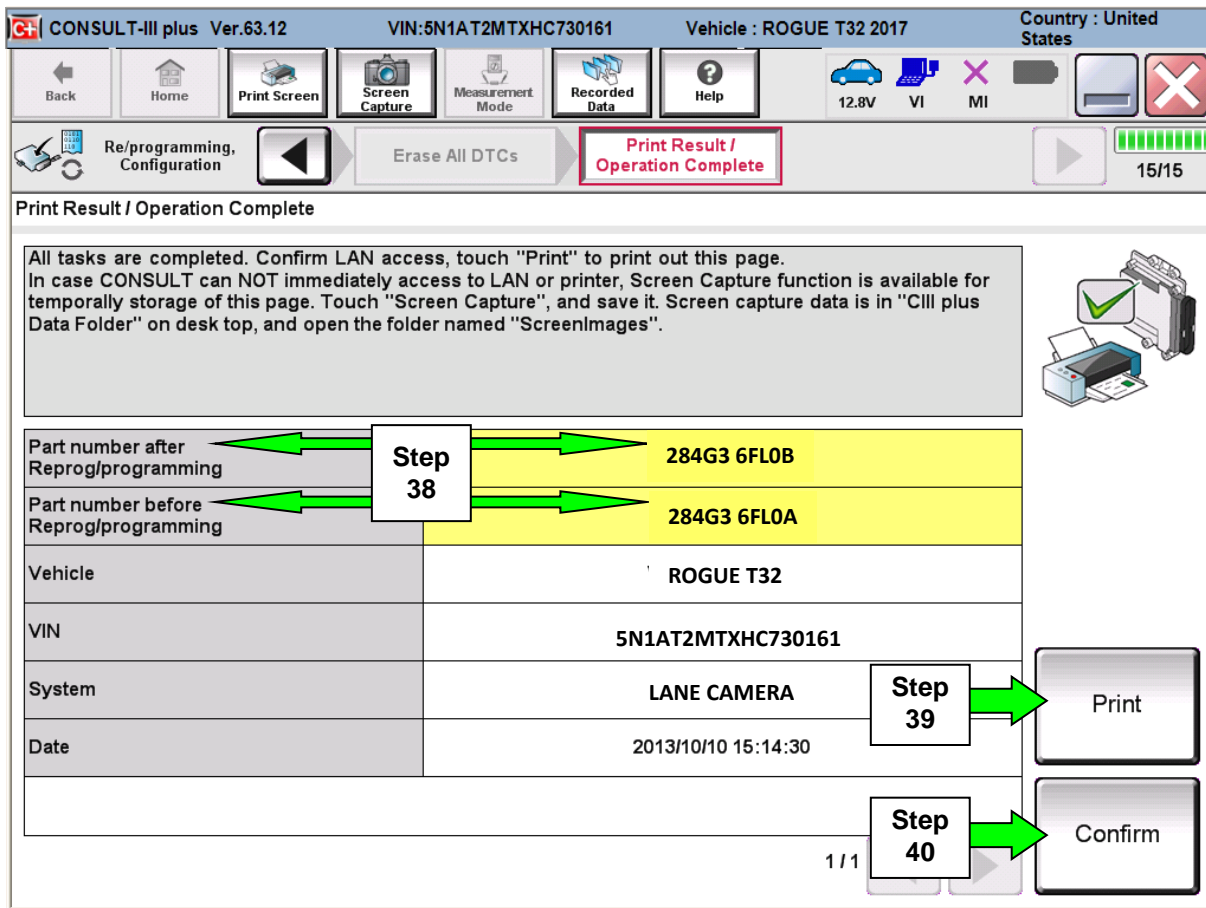

Figure 24
39. Print a copy of this screen (Figure 24) and attach it to the repair order.